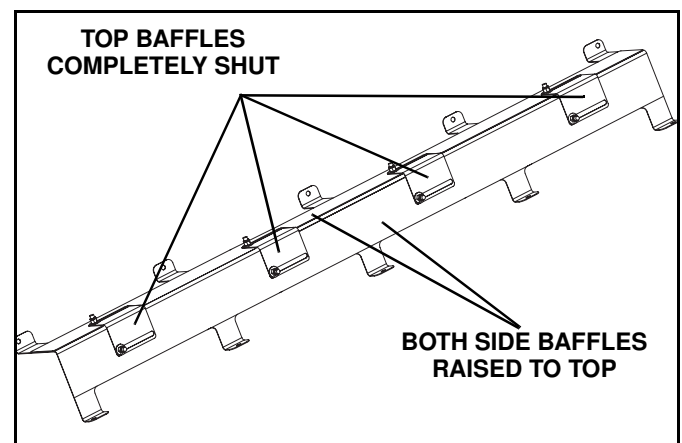

Figure 1-4
A. One Piece Design - Top baffles closed and side baffles fully raised. If more restricted flow is desired, the side baffles can be lowered (See *Figure 1-4.*)